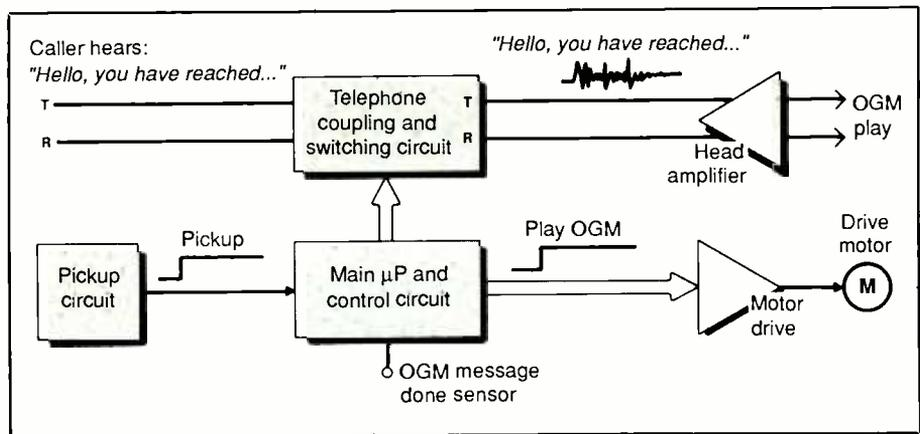
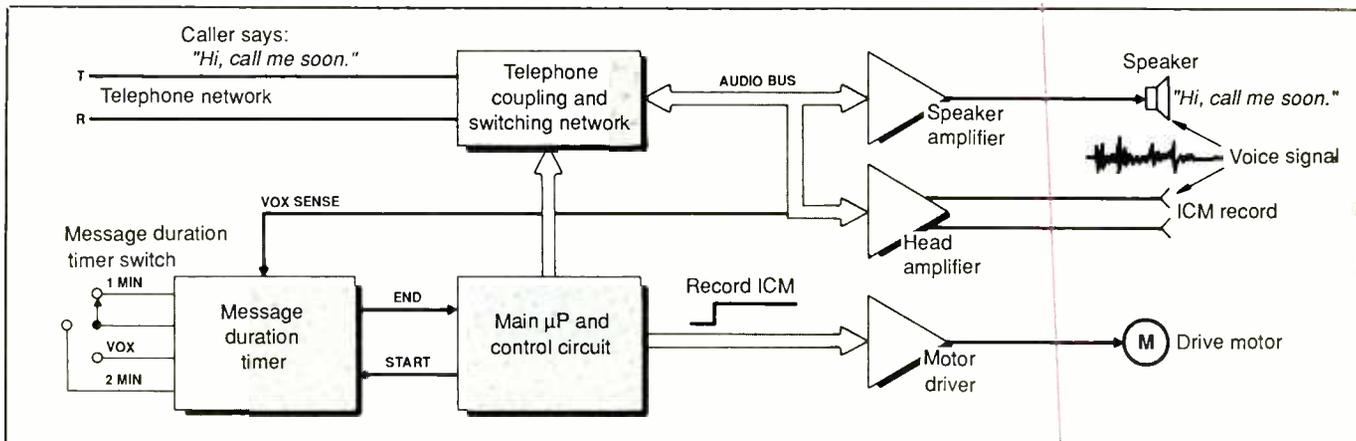

Fig. 3. When outgoing message is finished, Control circuit stops play and switches in incoming-message record head.
Fig. 4. Control Circuit switches in internal speaker to permit everything caller says to be reproduced through speaker.
- **Incoming Message.** When the outgoing message is finished, the Control Circuit turns off the OGM play mechanism and switches in the ICM record mechanism (Fig. 3). The telephone Coupling Circuit switches the telephone line to the ICM play head as well as the speaker. The Control Circuit starts the tape motor and generates a short tone—the start-recording tone or beep—that the caller hears. Everything the caller says is then heard over the machine's speaker and passed to the ICM recording head to be placed on the ICM tape (Fig. 4). This is what makes Call Screening possible.